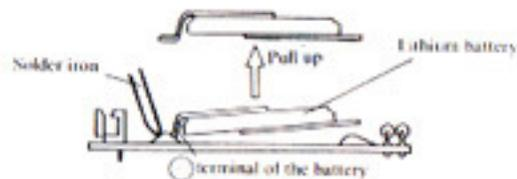

Figure 10-5
- (b). Dissolve the solder on the - terminal of the battery with a solder iron. And pull up the battery with your hand while the solder is in a liquid (refer to figure 10-5).